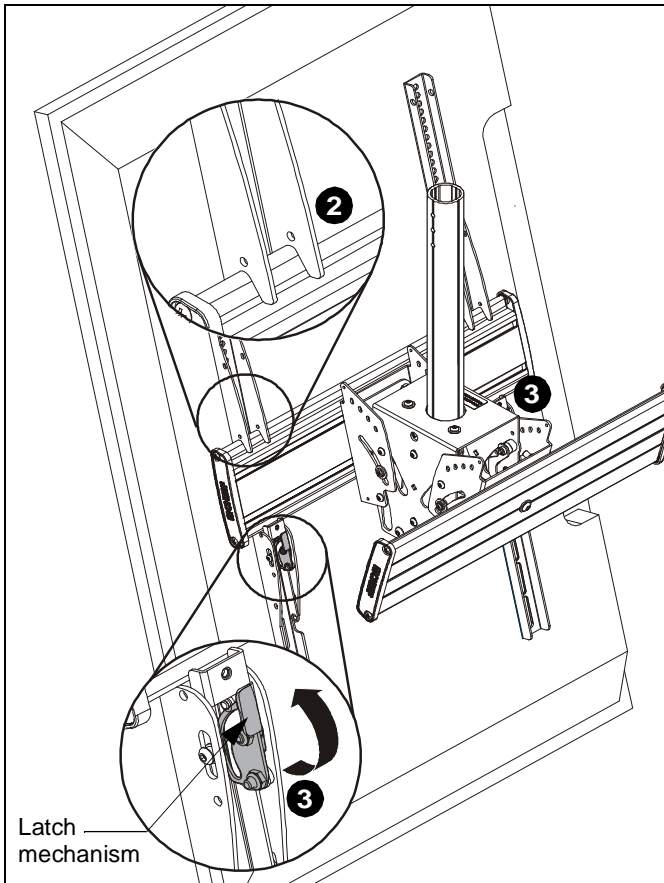

Figure 8
2. While supporting both sides of display, lower display onto ceiling mount, hooking top of interface brackets onto front of ceiling mount. (See Figure 8)
3. Raise the latch mechanism on both interface brackets to lock display in place. (See Figure 8)